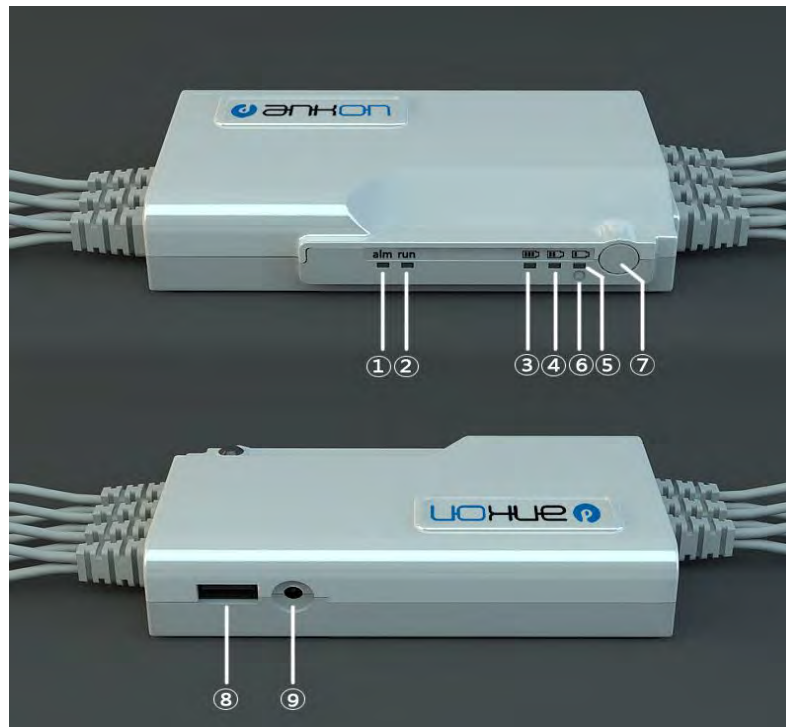

Figure 6-3 AKR-1 Data Recorder Operation Manual
Related marks and position of power switch, USB interface, LED, keys on the Data Recorder are shown in Figure 6-3.
Hold down the power switch without releasing until all the five LEDs (marked as ①②③④⑤ in Figure 6-3) are lit up to power on the Data Recorder normally. Click the related button in the ESView to power the Data Recorder off. If the Data Recorder is not connected to the computer via USB, and therefore no capsule information is detected for a consecutive 15 minutes, it will automatically power off to save energy. If the yellow LED alarm indicator (marked as ① in Figure 6-3 with word “alarm” under it) is always on, it indicates that no capsule is detected. If on/off continues flashing, it indicates that the capsule is present, however the upper-level software has not yet issued a command to let the capsule capture images. The green LED run indicator (marked as ② in Figure 6-3 with word “run” under it) will be lit up once it receives the image information from the capsule and off again quickly; it will light up again once it receives the next image information and then off again. The received image information captured by the capsule will also be marked accordingly.
The green LED battery capacity indicators (marked as ③④⑤ in Figure 6-3, with battery capacity icon under it, three lattices, two lattices and one lattice specifically) indicate current battery capacity. It is 90% when ③④⑤ LEDs are all lit up, more than 70% when ④⑤ LEDs are lit up, and 40% when ⑤ LED is lit up. If only ⑤ LED is on/off flashing, the remaining battery capacity is very limited. If the Data Recorder is powered on and being charged, these three LEDs will be on and off flashing in a cycle manner. If the white LED charge indicator
(marked as in ⑥ in Figure 6-3) keeps lighting up, it indicates that it is under charging (it will be lit up once it is charged regardless whether the Data Recorder is powered on). The white LED will automatically turn off when fully charged.